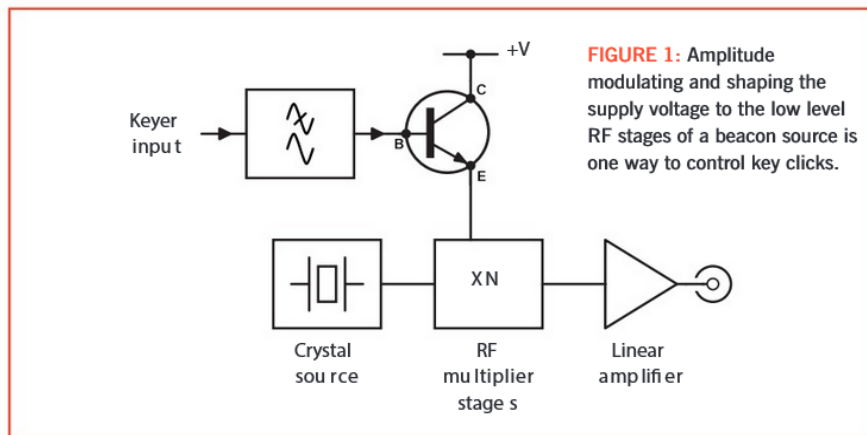

FIGURE 1: Amplitude modulating and shaping the supply voltage to the low level RF stages of a beacon source is one way to control key clicks.
Supplying a ramped supply to the RF chain for an on-off keyer in an attempt to reduce key clicks is not difficult when the RF chain probably consumes no more than a hundred milliamps or so. The power supply controller will only be operating in an in-between state for a few milliseconds during the ramp and most of the time will be hard on, supplying full power, or switched off. So a simple emitter follower current amplifier can be used to supply the varying voltage, as shown in **Figure 1**. This technique would work equally well for generating amplitude modulation (AM) although, as it would be operating at mid-point for much of the time, power dissipation could be excessive.